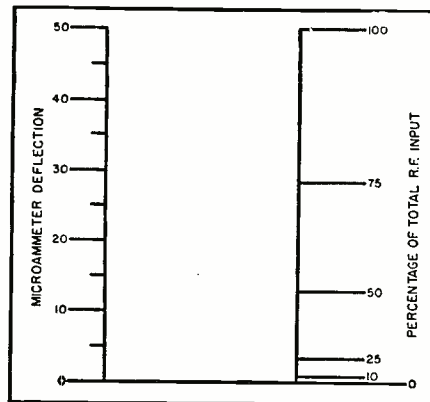

Fig. 4. Ideal square-law meter response.
The two most effective methods of controlling the gain of a transistor amplifier are to vary either the emitter current or the collector voltage. Fig. 4 illustrates the variation in gain that can be achieved by varying emitter current ( $I_e$ ) or collector voltage ( $V_c$ ).1 Now, to provide this control, a certain
Fig. 4. Shown here is the way in which the gain of common emitter and common base transistor amplifiers vary with emitter current (A), and collector voltage (B).
scale, and so on. Fig. 4 gives a comparison between the microammeter scale and ideal square-law response. Another important fact is that the rectification efficiency of the crystal decreases as the frequency increases. The actual amount varies with individual diodes. This results in a somewhat lower meter deflection for a given r.f. input at high frequencies, and for highest accuracy would necessitate applying a correction factor.